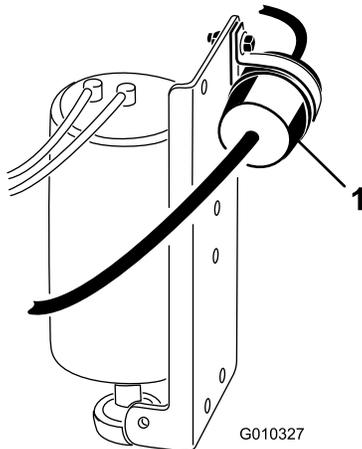

Figure 42
2. Place a clean container under the fuel filter (Figure 42).